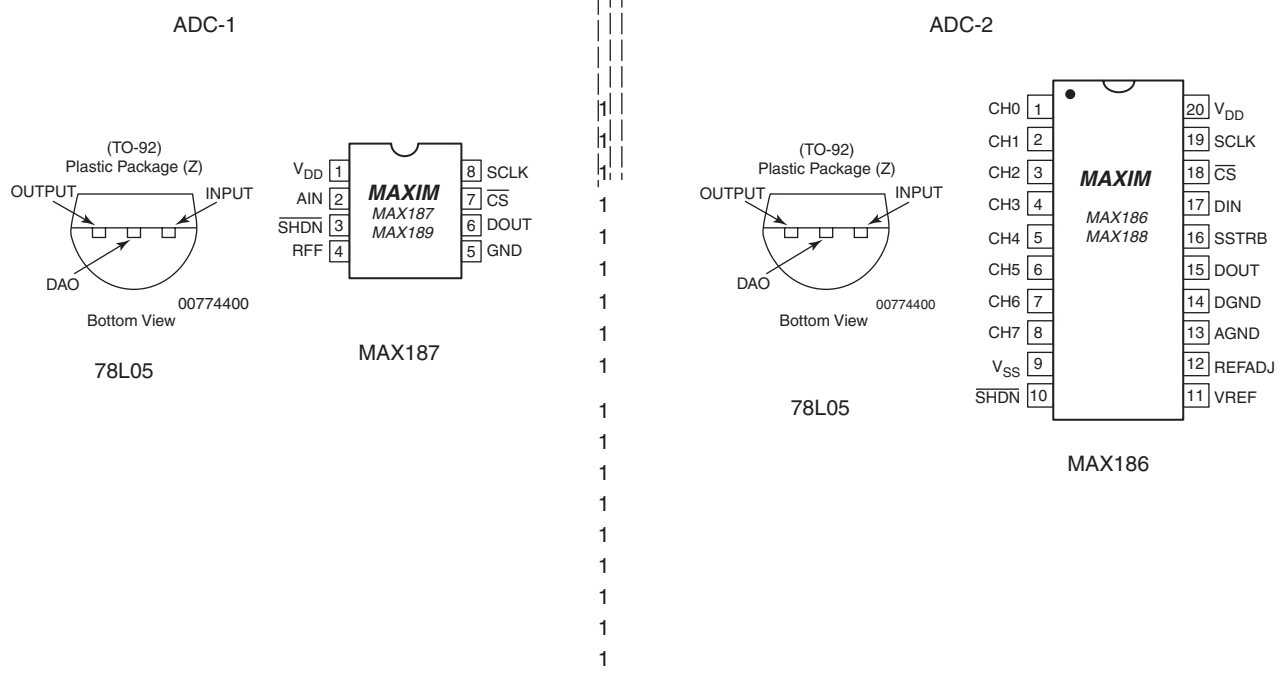

Figure 24-2 Semiconductor pin-outs
Take a quick look at the semiconductor pin-out diagram shown in Figure 24-2. This diagram will help you install the integrated circuits in the A/D projects. An integrated circuit socket for this project is highly recommended, as an insurance from a possible circuit failure if it ever happens. It is much easier to simply replace the IC rather than trying to un-solder the IC from the circuit board. The IC socket will have a cut-out or notch at one end of the package. Solder the IC socket onto the PC board. Pin one (1) will be assigned to the pin just to the left of the notch or cut-out. Pin one (1) of the IC socket is connected to the